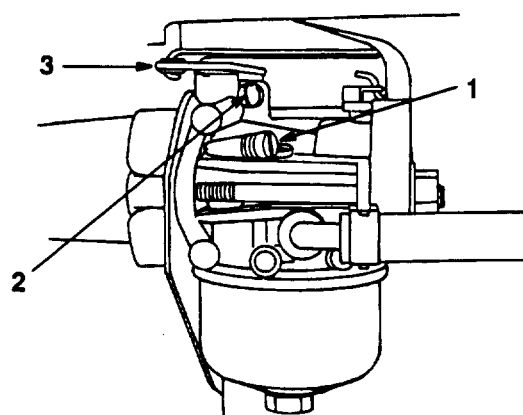

Figure 26
- Gently turn the idle mixture screw (Fig. 26) clockwise until it just closes. Do not force (tighten) the idle mixture screw because the carburetor could be damaged.
- Open the idle mixture screw (Fig. 26) one turn counterclockwise. This setting allows you to start the engine.
- Hold the carburetor throttle arm against the idle speed screw (Fig. 26). Adjust the idle speed screw so the engine idles at 1750 rpm. Check the rpm with a tachometer.
- While you continue holding the throttle arm against the idle speed screw, slowly turn the idle mixture screw (Fig. 26) in (clockwise) until the engine begins to slow (lean mixture). Next, turn the idle mixture screw out (counterclockwise) until the engine begins to run roughly (rich mixture).
- Now rotate the idle mixture screw (Fig. 26) midway between the lean and rich mixture until the engine runs smoothly.